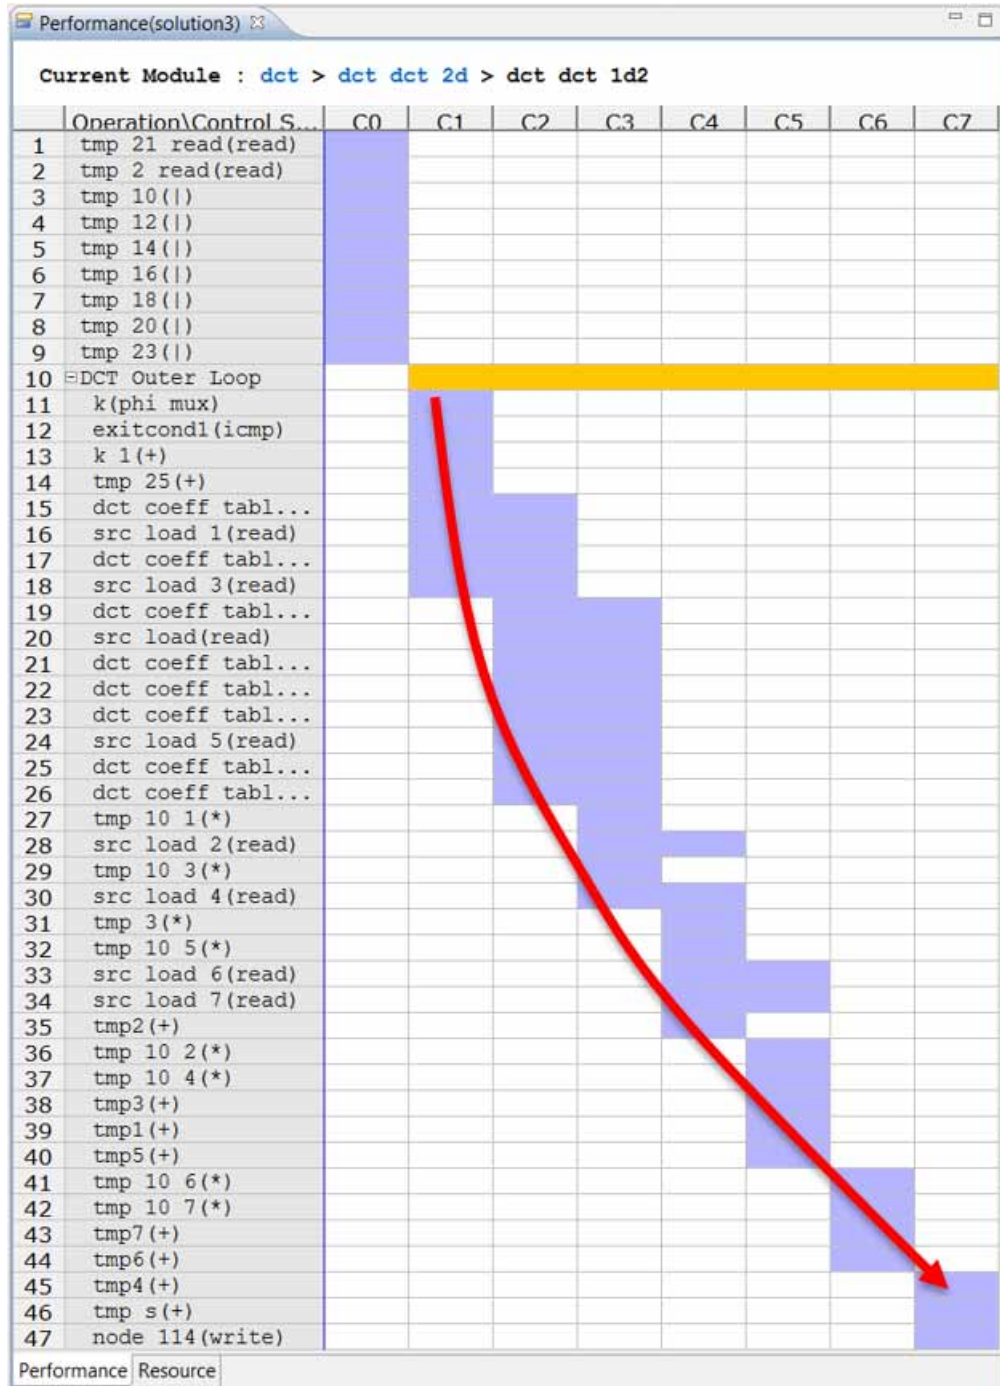

Figure 6-23: Analysis of dct_1d RD_Loop_Row
15. Expand the `DCT_Outer_Loop` to see the view shown in Figure 6-23.
Figure 6-23 shows a very different view from the earlier loop schedules (which had only a few cycles of latency). The schedule shows a long drift from input to output (as shown by the red arrow).
Figure 6-23 shows the analysis of `dct_1d RD_Loop_Row`.